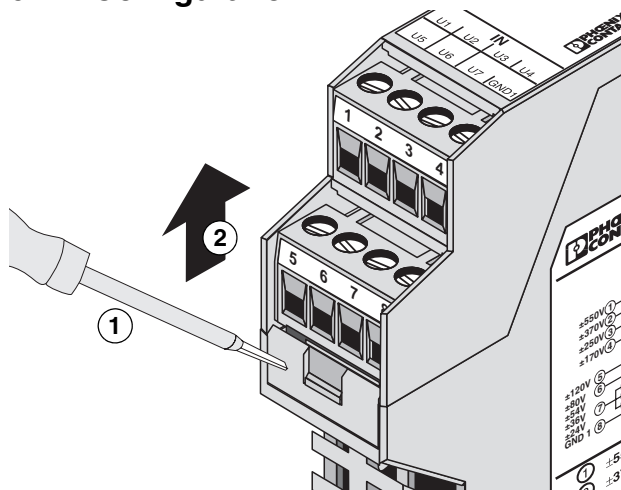

Figure 4 Opening the housing
- Using a screwdriver, release the locked upper part of the housing on both sides ①. The upper part of the housing and the electronics can now be pulled out approximately 3 cm ② (see Figure 4 on page 6).
- Insert the jumper (J) in slot J1 ... J3 according to the required input voltage.